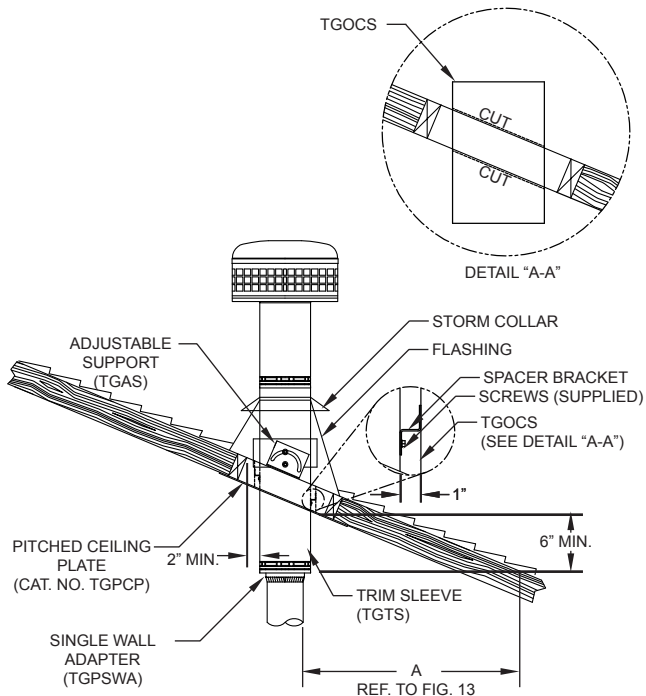

FIG. 14a
For wood or coal stove applications where the Temp/Guard Chimney passes through a high pitch or chalet ceiling, a clearance ceiling shield kit (TGCSK-C) must be used (See FIG. 14a). Insert TGOCS-C into framed opening and mark slope of roof and slope of ceiling. Remove from opening and trim off excess metal from roof side and ceiling side. Locate the (3) Z shaped spacer clips by centering the chimney through the framed area and marking the location within the ceiling and roof cavity. Attach (3) Z shaped spacer clips to the Temp/Guard Chimney casing evenly spaced around the circumference with the self tapping screws that are provided. The Z shaped spacer clips will center the TGOCS-C on the Temp/Guard Chimney and rest on the Pitch Ceiling Plate.